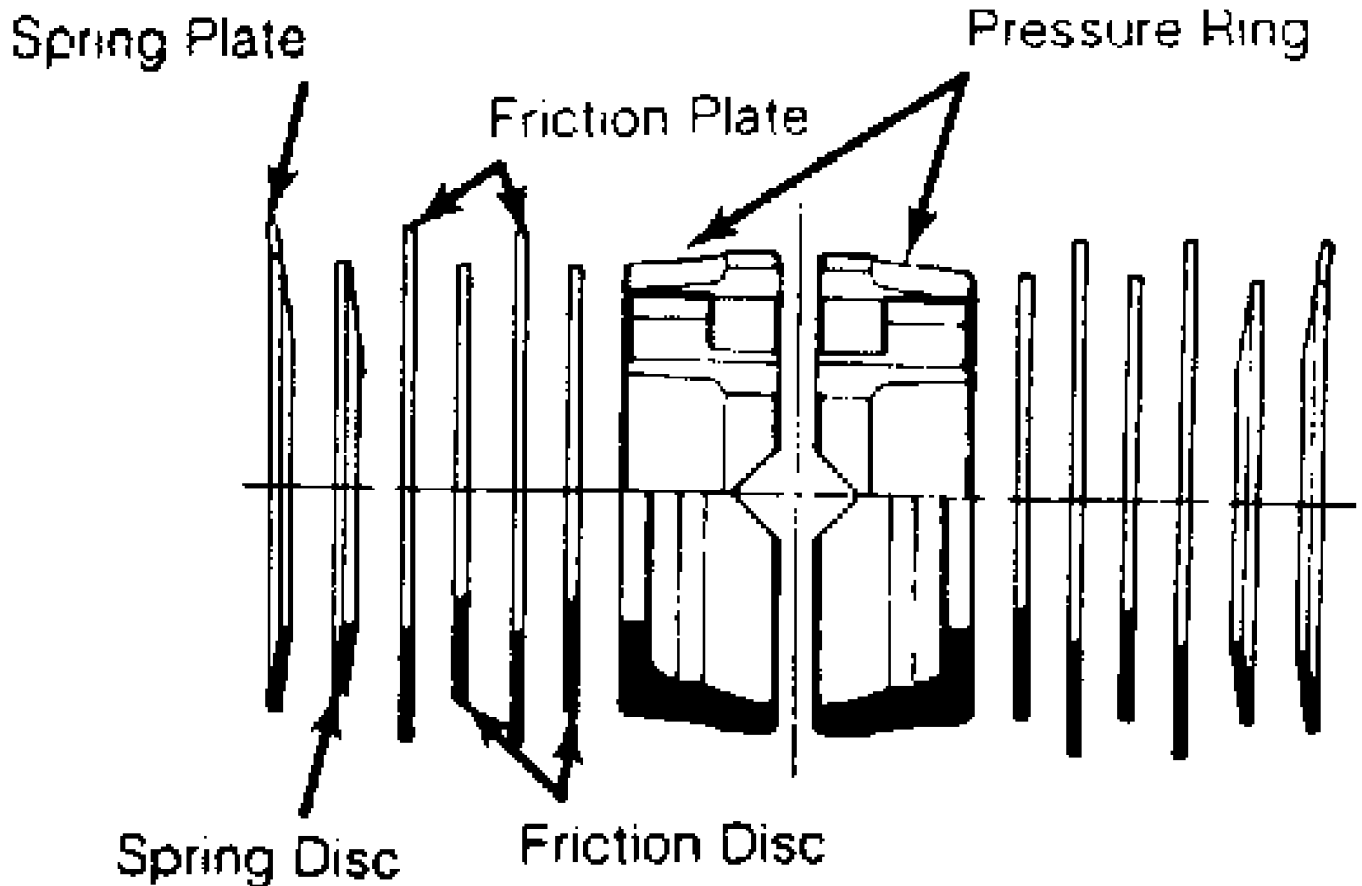

Fig. 9: Limited Slip Differential Assembly
11) Apply gear oil and friction modifier to all components. Install components in differential case. Ensure assembly order and direction of clutch components are correct. See Fig. 9.